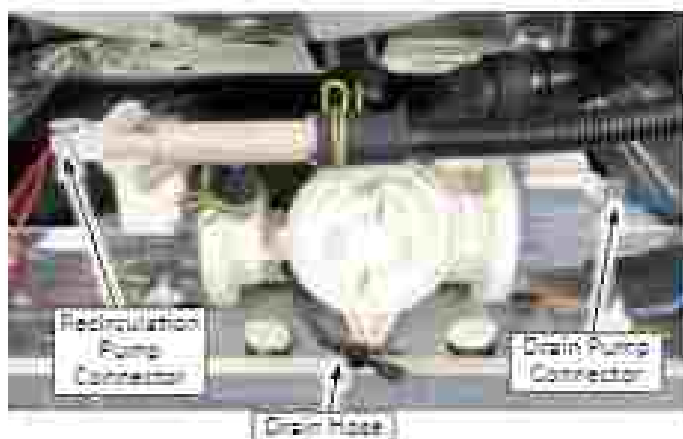

Figure 1
8. Disconnect the blue Drain Pump connector and the red Recirculation Pump connector. (See Figure 1.)